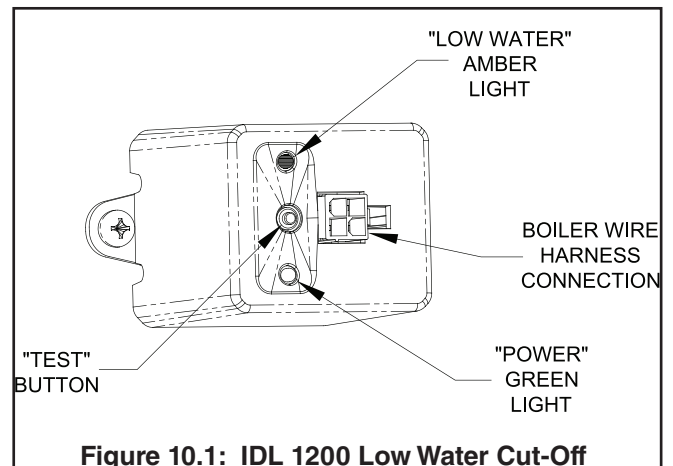

Figure 10.1: IDL 1200 Low Water Cut-Off
- LWCO Probe Check - Turn on power to the boiler. Both the green power light and the yellow low water light should come on (Figure 10.1)
- P. Check LWCO Operation - Push and hold the LWCO TEST button while the boiler is firing (Fig 10.1). The burners should shut down and the yellow light illuminate on the LWCO. Upon releasing the TEST button, the yellow light should go off and the boiler fire.